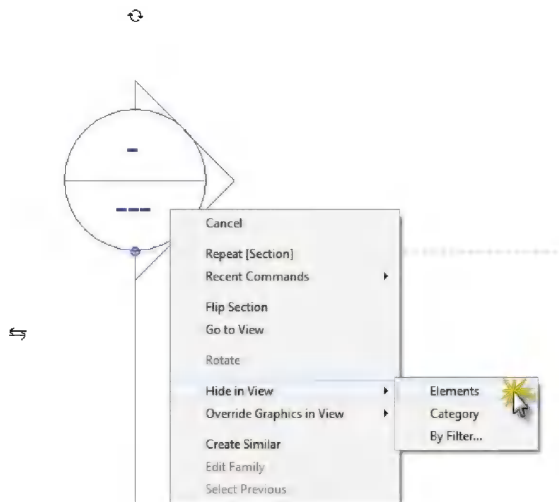

FIGURE 11-1.9 Hide annotation
18. If you see the building section tag, click on the section reference to select it and then right-click and pick **Hide in View → Elements** from the pop-up menu (Figure 11-1.9).